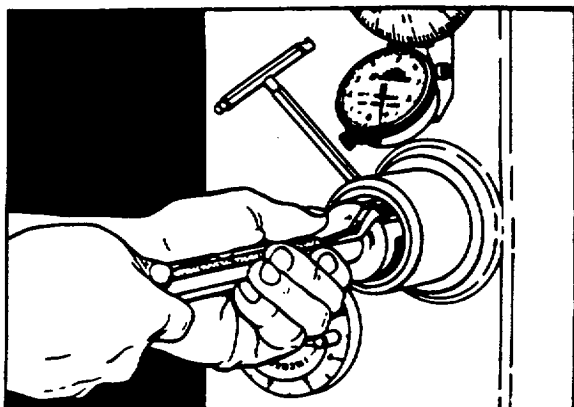

FIGURE 31
- (4) With power shut off (?), spindle so that large set screw is at 11 o'clock position. With stone of honing unit turned a quarter turn to right of large set screw, insert honing unit in spindle as far as it will go (Figure 31). Then rotate the honing unit a quarter turn clockwise and push unit in until it "bottoms". Tighten large set screw.